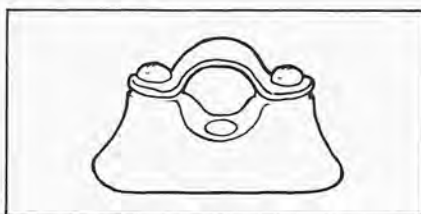

Fig. 12: Hospital saddle for clamping conduit in position
*Dampness.* Preferably no part of the installation should be potentially at risk from roof defects, water penetration, leaking water pipes or rising damp. But, if unavoidable, conduits should be galvanised and fixed with hospital saddles (fig. 12). Consumer units and accessories may need to be fixed clear of the wall and have damp resistant enclosures. Residual current circuit breaker protection is essential in damp areas. Efflorescent salts from rising damp can concentrate attack on MIMS cables touching the surface of masonry. Cable must be PVC oversheathed with shrouds to terminations and fixed with PVC coated or stainless steel clips.